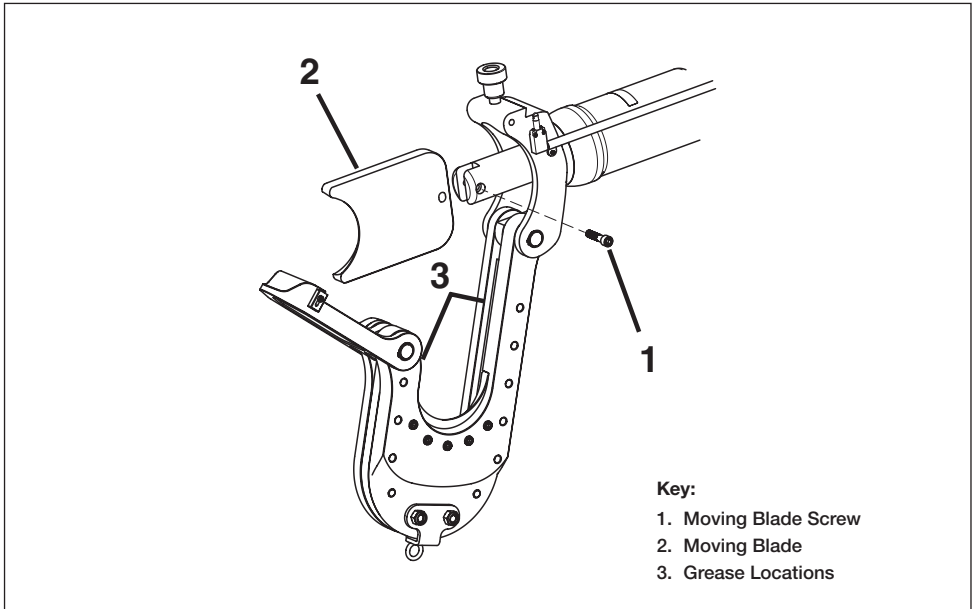

Figure 12, Moving Blade Replacement
5. Loosen and remove the moving blade screw (Figure 12, item 1).
6. Remove the worn moving blade (Figure 12, item 2).
7. Install new moving blade (Figure 12, item 2) into the piston.
8. Install the new moving blade screw (Figure 12, item 1). Torque to 102 ft-lb [138 Nm]. Apply Loctite 243 or equivalent.
9. Lubricate the slide slot and tool guide in the cutting head using an NLGI Grade 2 extreme pressure lithium grease (Figure 12, item 3).